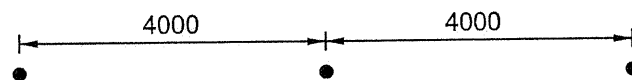

Figure 1: Single conductor in a bundle geometry
- (a) The geometry of an existing three-phase, single conductor per phase, transmission line is shown in Figure 1. The conductors in each phase can be assumed to be cylinders of aluminium, 30 mm in diameter. Determine the inductance, capacitance and series resistance, per phase, for the line. (8)